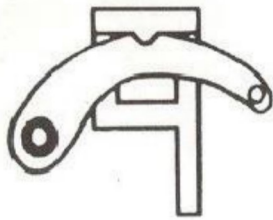

Figure 1.
1. Following all safety precautions, place the foot of the jack beneath the load; Lift the Reversing Latch (17) to its' "UP" position and ensure it is locked in place, with the indentation in the Latch, firmly engaged in the notch on the Reversing Switch (15) refer to fig. 1. Jack up the nose until it comes into contact with the load at the desired point of lift (consult the car manufacturer's operation guide). Pause at this stage and check to ensure there are no obstacles to a clean lift.
2. Pull down firmly and evenly on the handle and observe the load rising. As the handle is pulled down you will hear the climbing pin (13) click into place as it locates in a hole in the steel bar (3). At this point, relax the handle allowing the pin (13) to take the load. Raise the handle to the top of its stroke to take a fresh purchase and pump the handle once again.